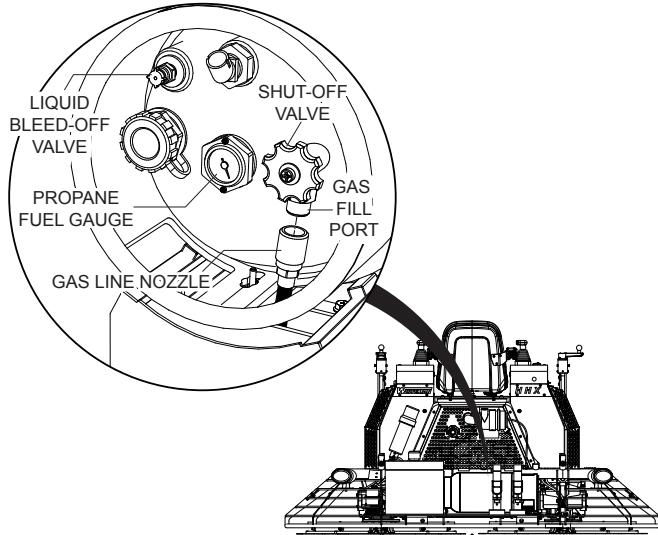

Figure 14. Propane Tank Shut-Off Valve
- Turn the shutoff valve knob (Figure 14) clockwise to release propane gas.